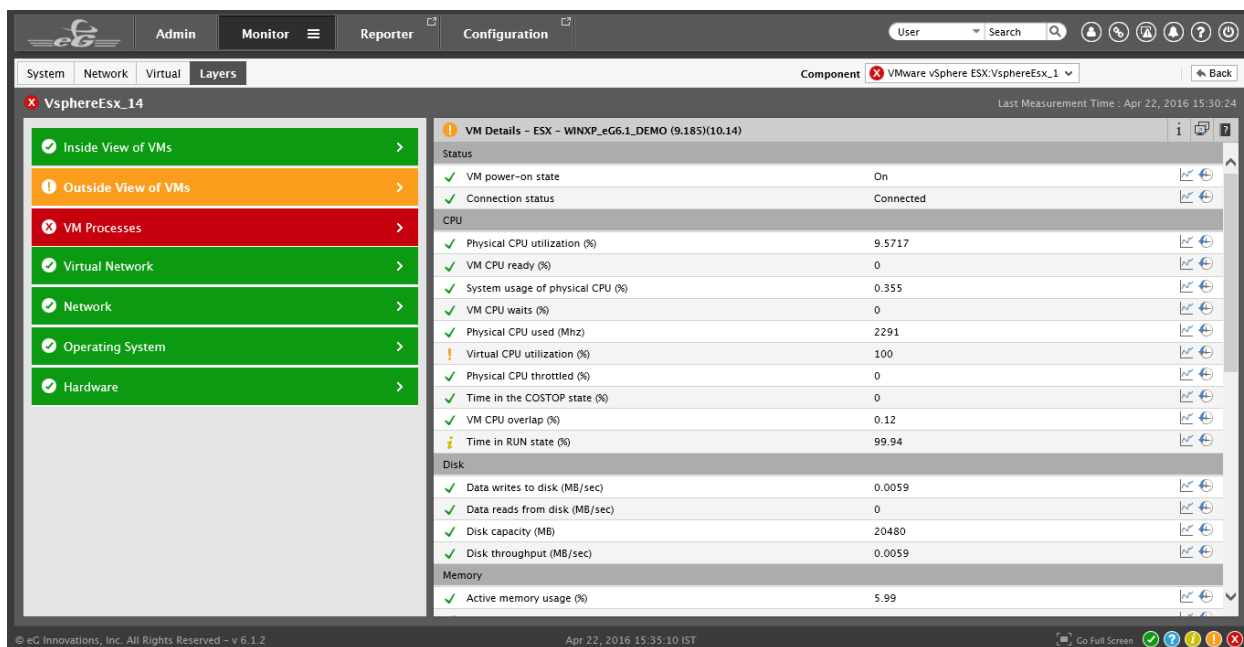

Figure 3.9: Launching the eG monitoring console from the SCOM console
- If you select a component from the **All Components** view and click the **Diagnose using eG** option in the **Actions** pane, Figure 3.9 will appear.
- Figure 3.9 reveals the layer model of the component chosen from the **All Components** view, and also displays the problem layer, problem test and problem measures related to that component. This way, you can quickly isolate why the component is in an abnormal state currently.